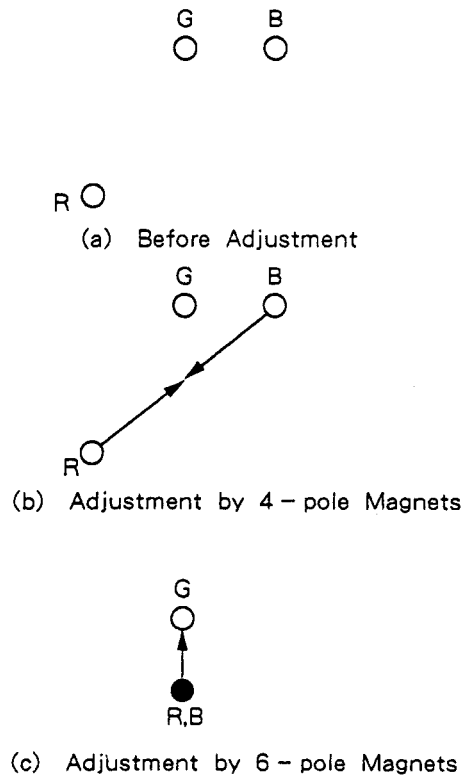

Fig. 14 - 4
- (1) Tune the receiver to a crosshatch signal.
- (2) Set the BRIGHTNESS control and CONTRAST control in click - stop positions, or in the standard positions.
- (3) Adjust the degree of the angle of the 4 - pole magnets and the angular position of them to converge the "B" beam and "R" of the screen. (Refer to Fig. 14 - 4 (b).)
- (4) Adjust the degree of the angle between the tabs of the 6 - pole magnets and the angular position of them to converge the "B" beam and "R" to the centre beam "G" at the centre of the screen. (Refer to Fig. 14 - 4 (c).)
- (5) If necessary, repeat above steps.
- (6) On completing the adjustment, insert the Purity Convergence magnetic assembly and lock with lock paint.